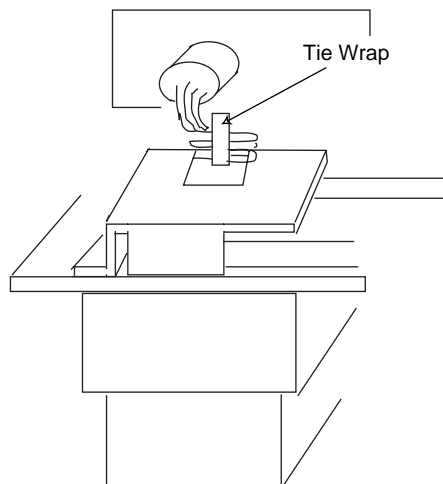

Figure B-12. Tie Wrapping Wires
19. Tie-wrap the wires on the belt cover (see Figure B-12).